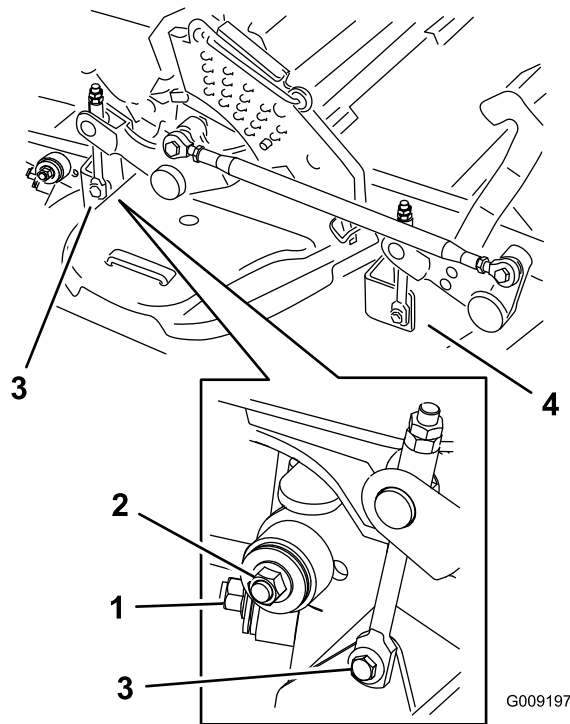

Figure 101
8. Remove and retain the hardware on both sides of the deck as shown in Figure 101.